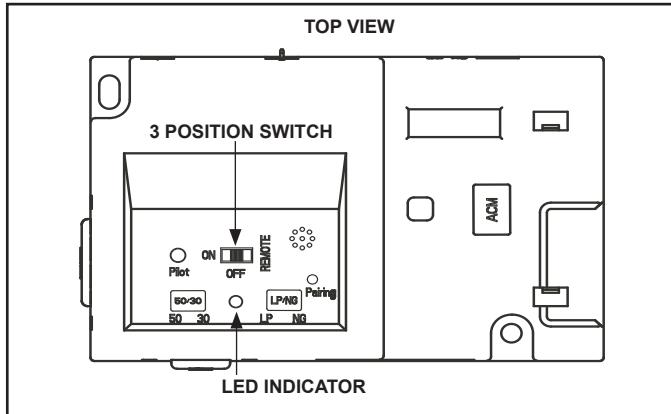

Figure 3.6 IFT-ECM
The Intellifire™ Touch intermittent pilot ignition system comes with a battery backup system that enables the system to operate in a power outage. The system offers seamless transition from household AC power to battery backup. A factory-installed battery pack is located in the control cavity of the appliance. See Figure 3.6. Battery longevity and performance will be affected by long term exposure to the service temperatures of this appliance.
1. The Electronic Control Module (IFT-ECM) has a three-position ON/OFF/REMOTE selector switch that must be set for proper operation. See Figure 3.6. When changing switch positions, it is important to pause in each position for 1-2 seconds.